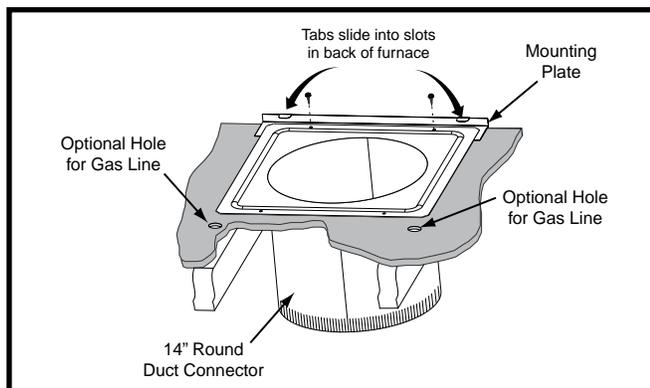

Figure 15. Round Duct Connector
2. Install the mounting plate (Figure 15, page 17) under the back side of the duct connector. **NOTE:** Make sure the screw holes are aligned in both components.
4. Secure front with one (1) fastener at each corner (Figures 15 or 16).